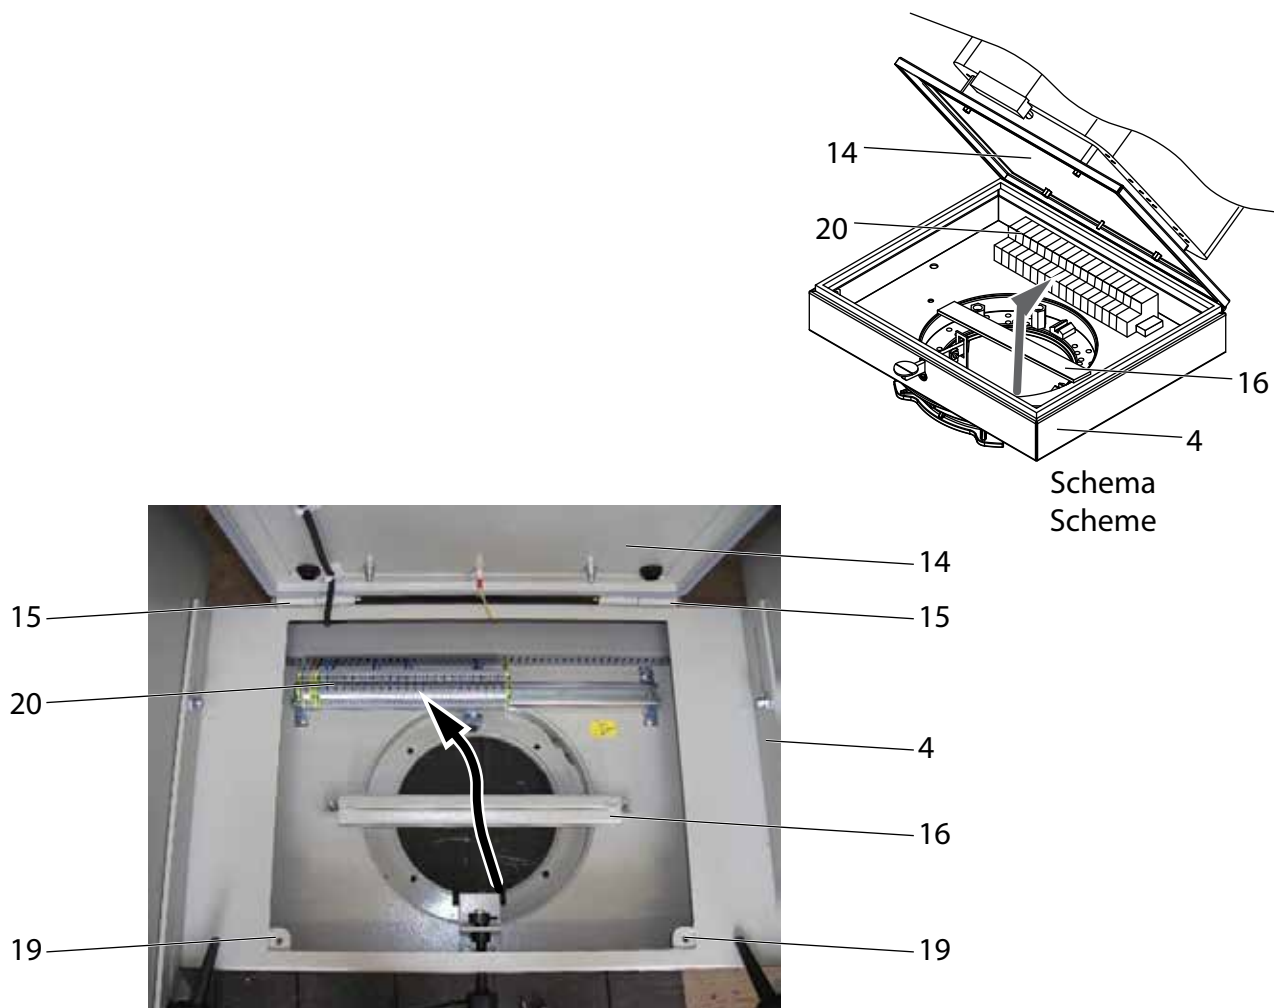

Figure 29. Cable entry
4. Route the cables from below into the spacer (4) and via the clamp rail (16) (see Figure 29 „Cable entry“, page 86).
5. Connect the corresponding cables to the terminal block (20) (see Figure 29 „Cable entry“, page 86) as per the related circuit diagrams (see chapter 11. „Reference documents“, page 110).
6. Tip the seat back and fasten the spacer (4) using the two locking screws (18).